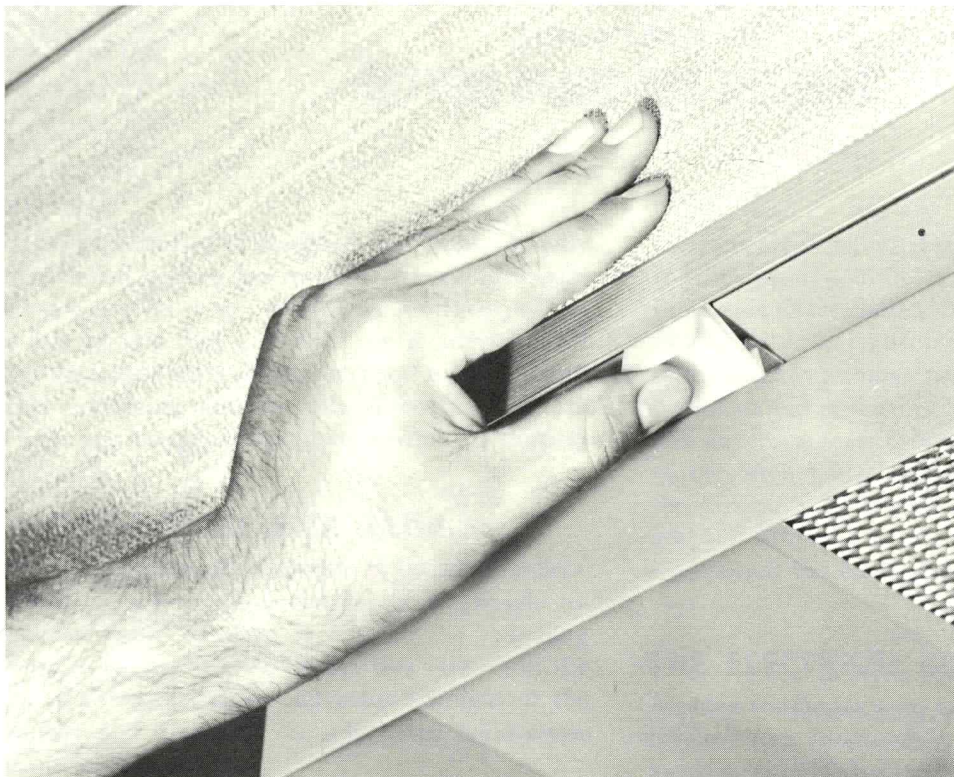

FIGURE 1-D
2. Roof lockers are equipped with hidden catches, and continuous hinges on the doors. To open the locker, squeeze the latch, to close, just shut the door firmly the latch will engage by itself. (See Figure 1-D)